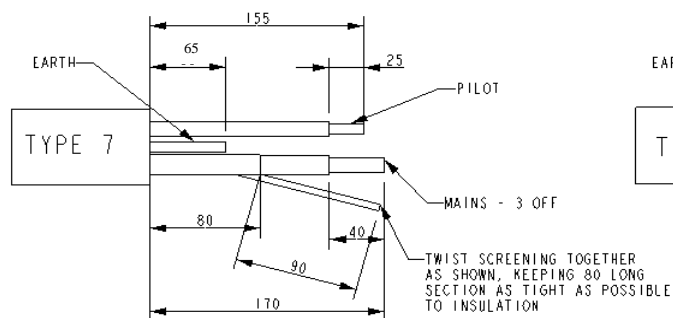

Fig.2
- 2) The cable should now be stripped to dimensions shown in figs. 2, 3, or 4 depending on what type of cable is being used. Baring of the conductors should be left to stage 3. The screens should be carefully twisted together to ensure that maximum screen covering is maintained between the cores.